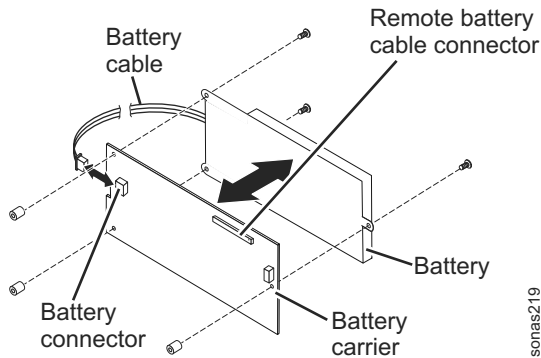

Figure 34. Removing the battery from the battery carrier
**Note:** If your battery and battery carrier are attached with screws instead of a locking-clip mechanism, remove the three screws to remove the battery from the battery carrier. See Figure 34 on page 126.